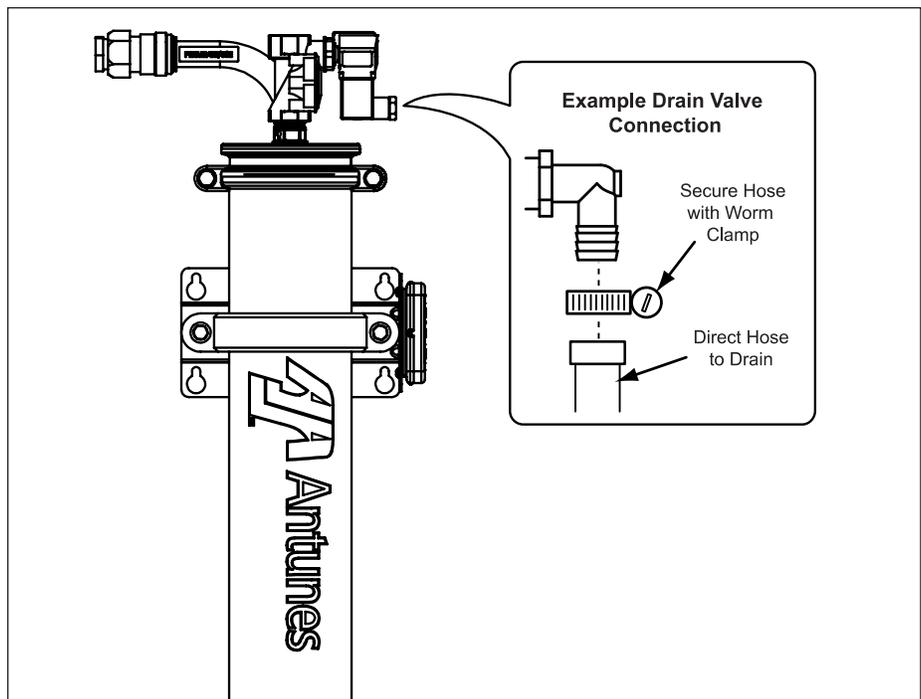

Figure 4. Drain Valve Connection
2. Connect one end of the hose to the Drain Valve with an appropriate fitting (not supplied) (Figure 4).
3. Direct the other end of the hose to the drain (Figure 4). For hard plumbed drain lines the use of an O-Ring sealed union is recommended (not supplied).